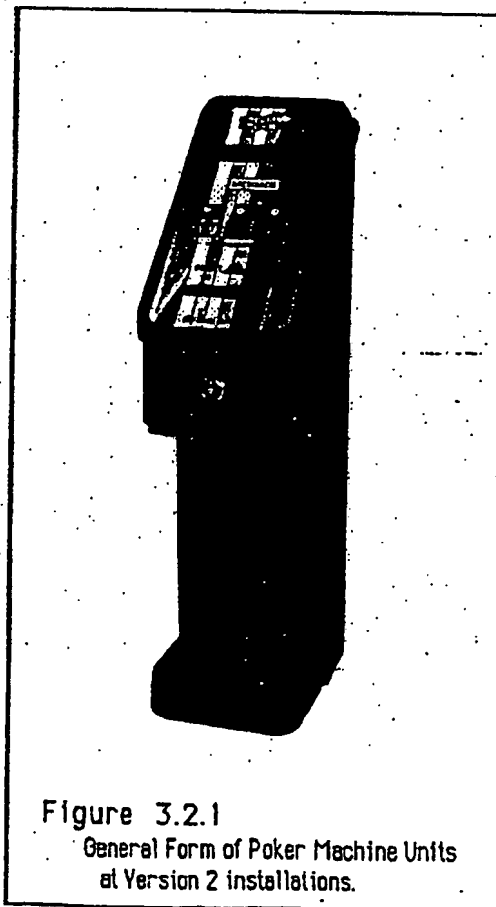

Figure 3.2.1
- Figure 3.2.1 Shows the general form of poker machine units at Version 2 installations.
Figure 3.2.1 shows the general form of poker machine units at Version 2 Installations.